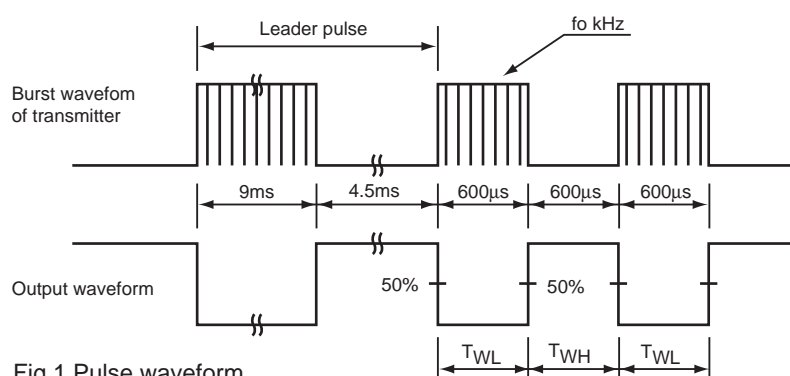
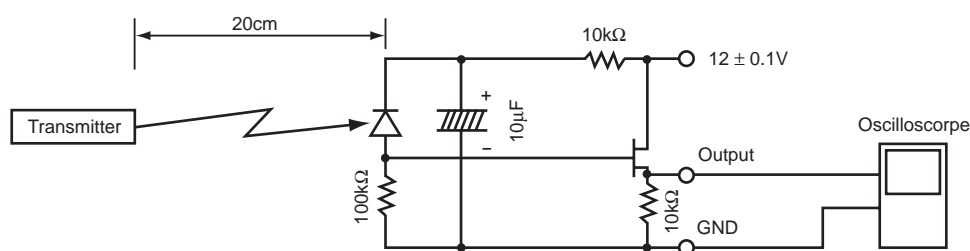

Fig.1 Pulse waveform
Fig.2 The output adjustment of transmitter
*2 As shown in Fig.1, burst wave shall be transmitted by our transmitter in item 7. Detector face illuminance : E_e < 10 lx
The Transmitter shall be defined by adjusting the output of transmitter to make $V_o=400mV_{p-p}$ according to the burst wave shown in Fig. 1 and measurement condition shown in Fig.2. In addition infrared LED used in the transmitter is set to $\lambda_{peak}=945nm$, $\Delta\lambda=45nm$, and photodiode used in the receiver is set to $32nA / I_x$ ($V_R=5.0V$).